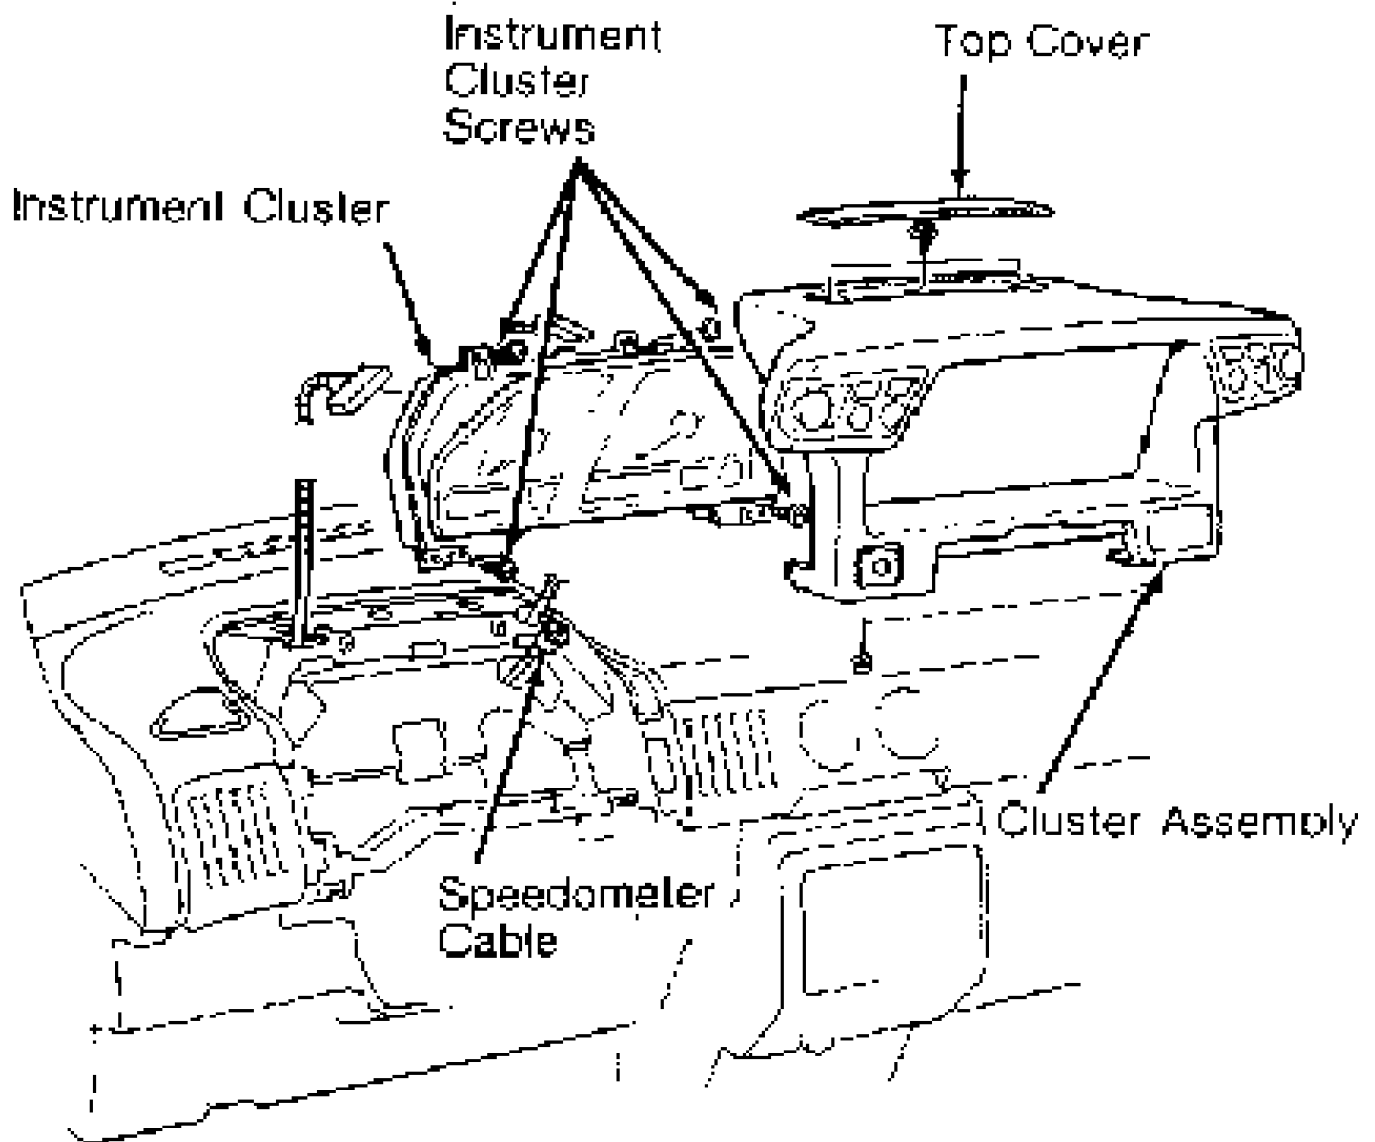

Fig. 9: Removing Instrument Cluster (MPV)
1) Remove steering wheel and column covers. Remove small cover from top of cluster assembly. See Fig. 9. Remove screw below cover. Remove 2 screws from bottom of cluster assembly.